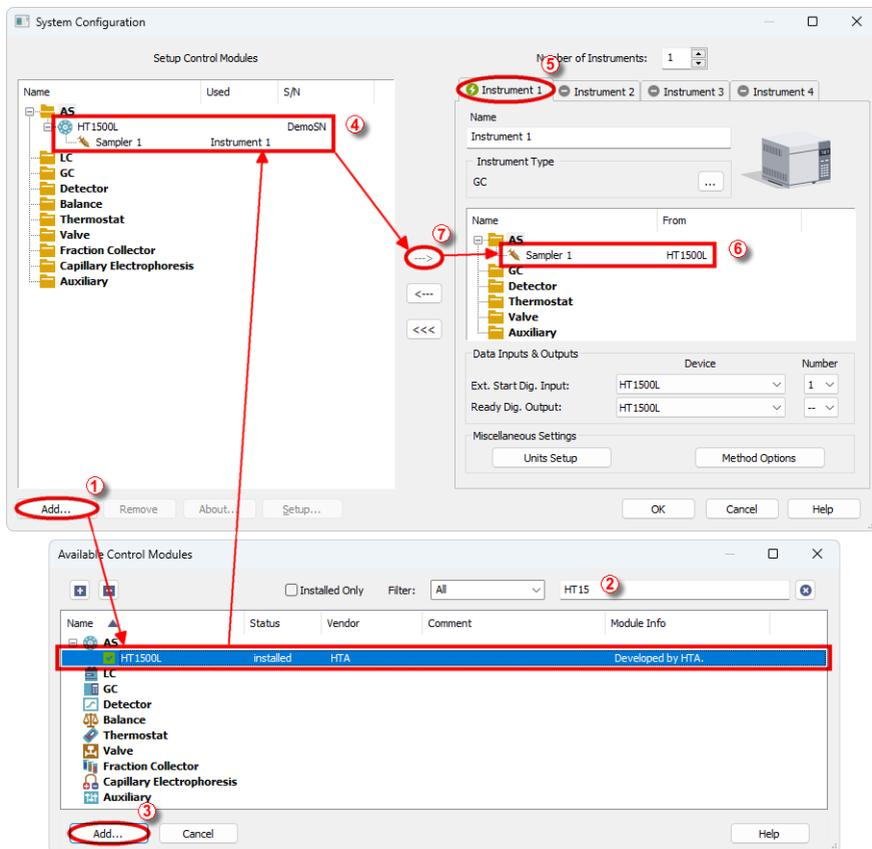

Fig. 2: System Configuration
- Press the **Add** button ① (see Fig. 2 on pg. 4.) to invoke the **Available Control Modules** dialog.
- You can specify the searching filter ② to simplify the finding of the driver.
- Select the **HT1500L** sampler and press the **Add** ③ button.